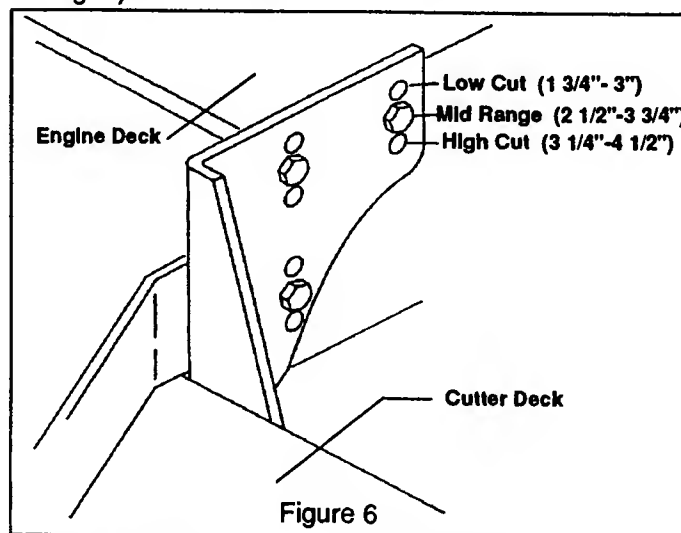

Figure 6
- Before beginning, determine which mounting holes are to be used to best suit the cutting height requirements of your customer. High/Medium/Low ranges (see fig. 6).
Additional range to the cutting height can be achieved by repositioning the cutter deck in relationship to the engine deck (This adjustment can also effect the pitch of the deck). There are 3 positions (see figure 6), suggested mounting is the middle holes. For cutting lower, mount the deck in the top holes. To cut higher, mount the deck in the bottom holes.